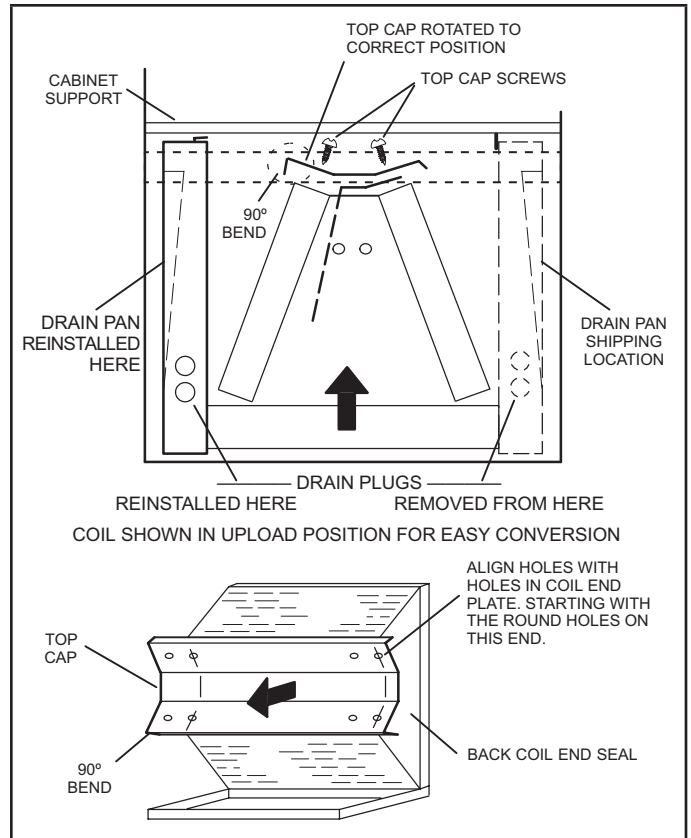

FIGURE 4. Field Modification for Left-Hand Discharge
- Rotate top cap 180° front-to-back and align with unused screw holes. Holes must align with front and back coil end plates. The top cap has a 45° bend on one side and a 90° bend on the other. **The 90° bend must be on the same side as the horizontal drain pan as illustrated in figure 4.**